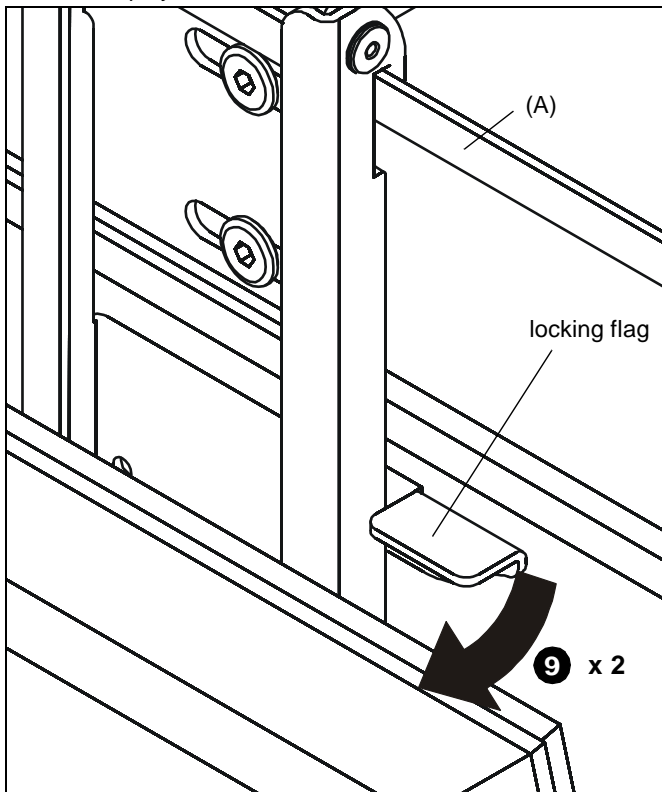

Figure 6
- Rotate flags on each interface bracket down to the closed position in order to lock brackets to wall plate. (See Figure 6)
- Tilt tension is adjustable by using 3/16" hex key (AA) in the tension adjustment nut. (See Figure 6)